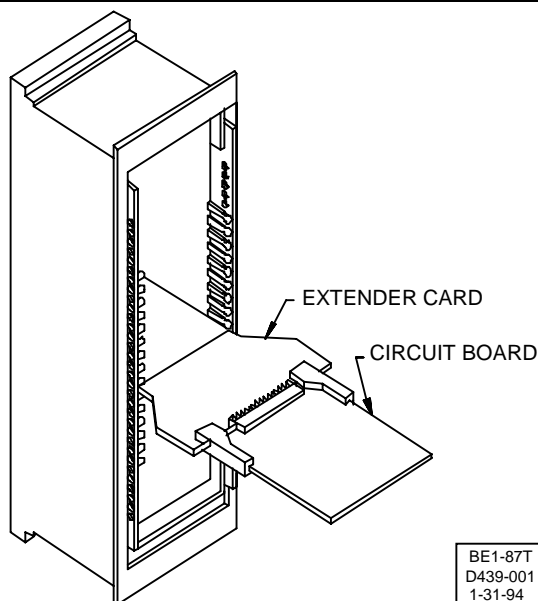

Figure 5-1. Illustrating Use of Extender Board
If actual waveforms, as sensed by the BE1-87T, are desired, a procedure using a circuit board Extender Card, shown in Figure 5-1, and an oscilloscope is available.
4. Extender Card, Basler P/N 9 1655 00 100, as shown in Figure 5-1.